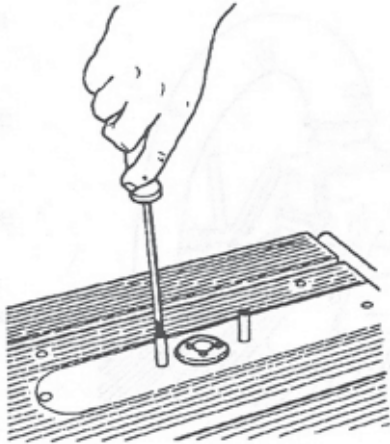

Figure D-72
1. Screw in both pins which came with the shaper table insert, and securely tighten them with a medium blade screwdriver, see Figure D-72.